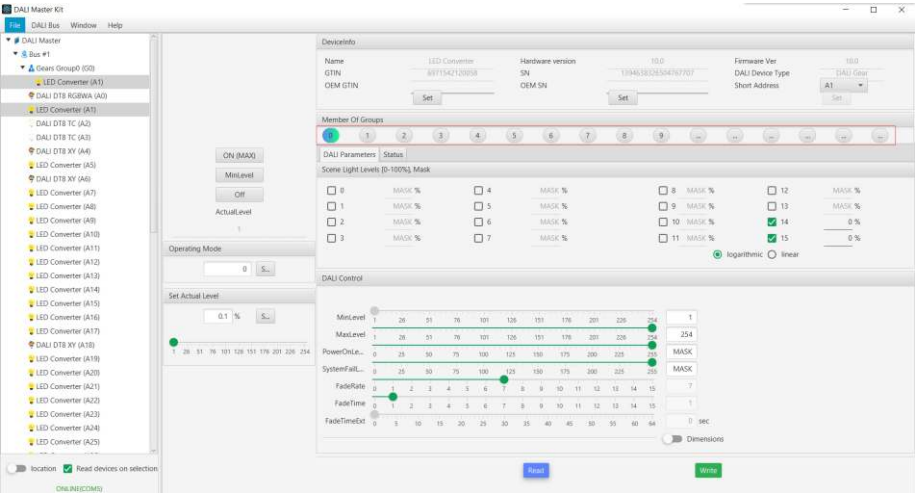

Figure 6 DALI Group Configuration for DT6 Device
3.1. Click to choose a DALI Device under Bus #1 on the left column of main window, the DALI configuration parameters of this device will be shown on the right side. The configuration item “Member of Groups” is to assign the device to maximum 16 DALI groups. Click on the group number 0-15, the group number background color will change to green, which means the device is assigned to this DALI group. Click the green color group number again, its background color will change to gray, which means the device is removed from this DALI group. As shown in Figure 6, 7, 8 & 9.